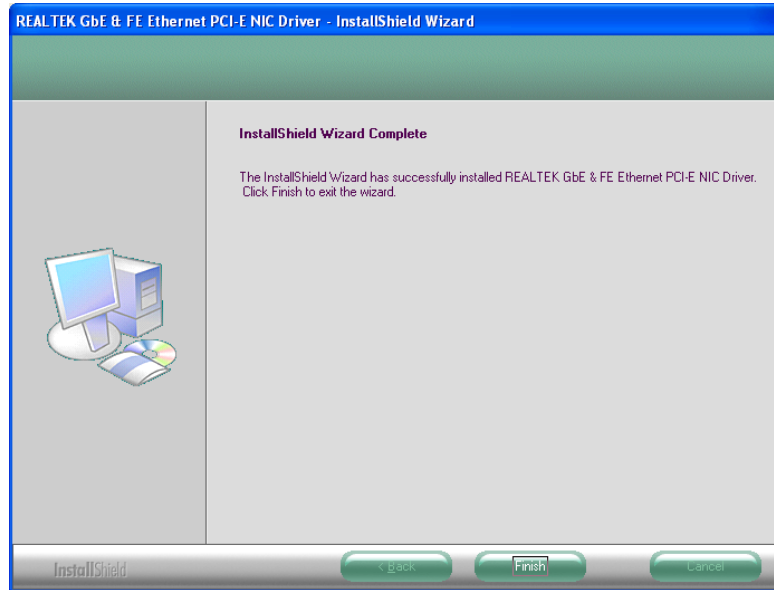

Figure 7-20: LAN Driver Installation Complete
Step 9: When the driver installation is complete, the screen in Figure 7-20 appears.